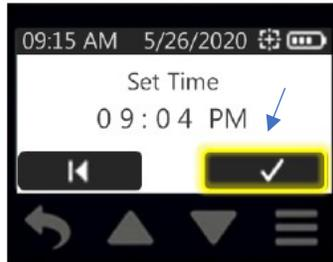

Figure 51. Accept Button
5. Touch the check mark to accept new time and return to Clock Menu. The updated time setting will display (Figure 51).